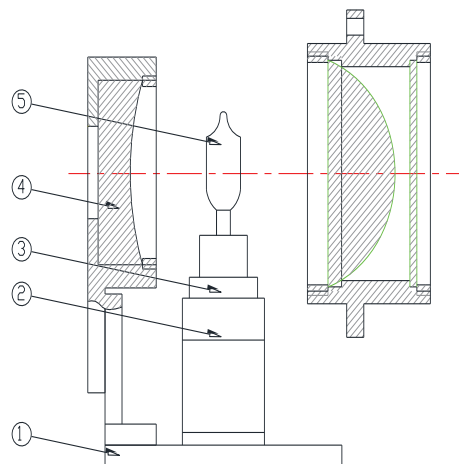

Fig 7 Illumination System
5.1.1 Restorative adjustment (see Fig 7)
5.1.2 Replace the lamp (see Fig 7)